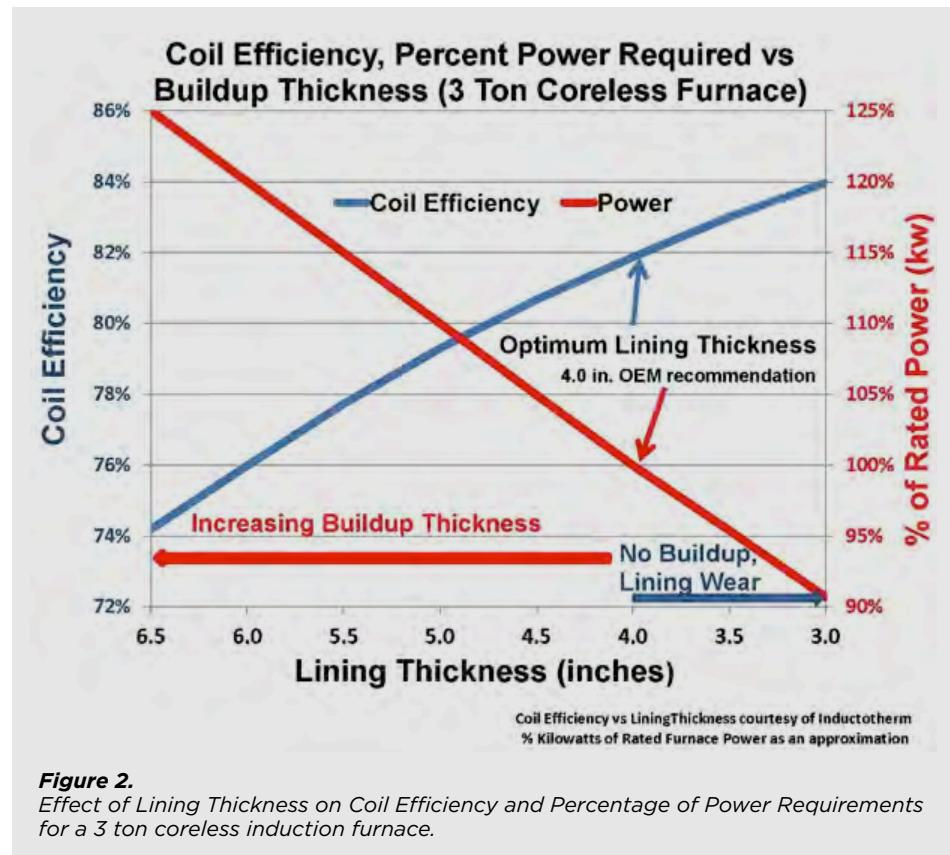

Figure 2.
Decreasing refractory wall thickness in a coreless furnace improves the coil efficiency and increases the effective power input. Studies have shown a substantial reduction in power consumption with decreasing thickness of the refractory lining. (2) With increasing furnace operating time and progressive refractory wear, power consumption decreased by 9% three weeks after a new lining was installed on a 3 metric ton coreless furnace. Conversely, the accumulation of insoluble slag buildup on the refractory wall will have the exact opposite effect. Not only will buildup increase the effective refractory wall thickness, but coil efficiency will decrease as shown in Figure 2.(3) As the effective refractory thickness increases from slag buildup, coil efficiency decreases and the amount of electrical energy required to melt increases (shown as the approximated percentage of rated power). The coil efficiency at the optimum lining thickness is 82% and the percentage of rated power in kW's is 100%. As the buildup thickness approaches 2.5 inches, it is estimated that an additional 25% increase in kW's will be required to melt.